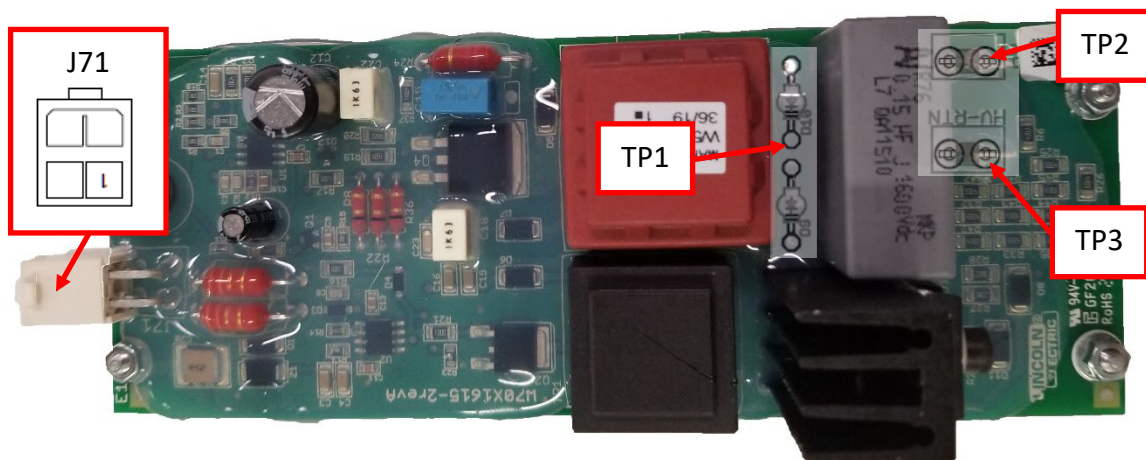

Figure F.3
A.3. Perform the active measurements in Test Table 1, refer to Figure F.3 for test point locations.